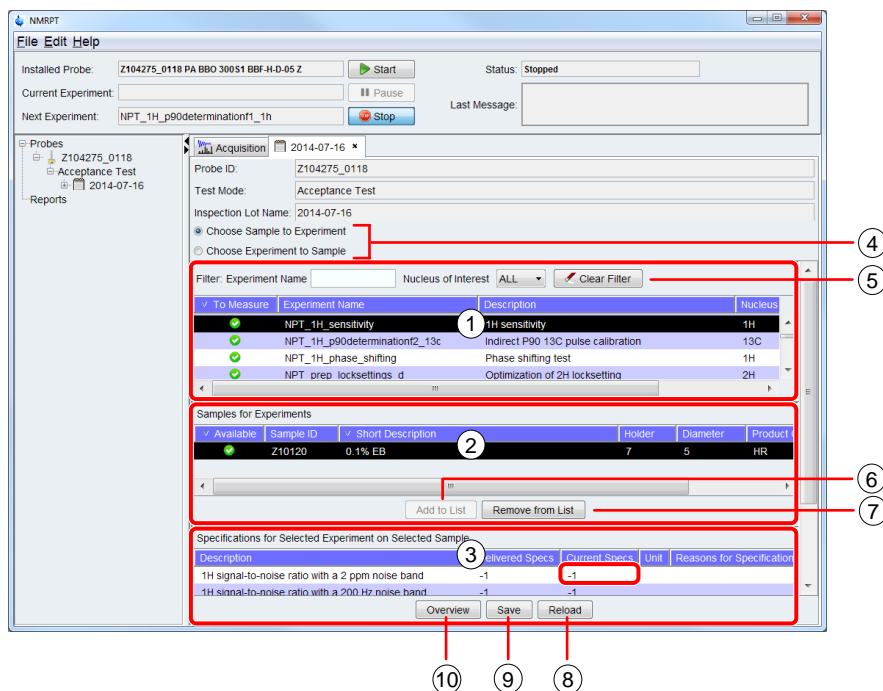
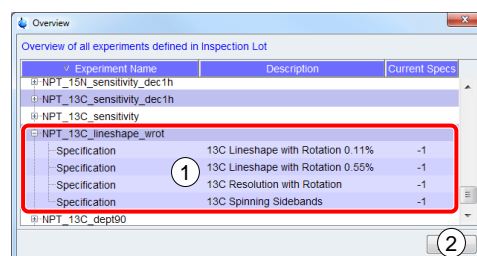

Figure 5-61: Inspection Lot tab – overview
Figure 5-62: Inspection Lot tab – Overview dialog
On Inspection Lot tab (Figure 5-61), the content of the Inspection Lot is prepared. **Pairings** of experiments and samples are included to the Inspection Lot and their specification values are set. The Inspection Lot tab consists of three tables:
- (1) Select an experiment from the experiment table (Figure 5-61 (1)) to show the respective samples in table (2) (Figure 5-61). The experiment table contains all experiments suitable for the probe of the Inspection Lot.
- (2) Select a sample for the selected experiment from the sample table (Figure 5-61 (2)) to show the respective specification values in table (3) (Figure 5-61). Click **Add to List** (Figure 5-61 (6)) to add the Pairing of experiment and sample to the Inspection Lot.
- (3) Click a cell in **Current Specs** column of the specification table (Figure 5-61 (3)) and enter a specification value. In case of changed Specs, enter **Reasons for Specification Change** to the corresponding cell. Click **Save** (Figure 5-61 (9)) to apply the changes.
- (4) Select **Choose Experiment to Sample** to swap the order of experiment table (Figure 5-61 (1)) and sample table (Figure 5-61 (2)). Selecting a sample in first table shows all experiments available for this sample in second table. **Select Choose Sample to Experiment** to switch back to default order.
- (5) **Filter Bar**
- (6) **Add to List**
Click **Add to List** (Figure 5-61 (6)) to add the selected Pairing of experiment and sample to the list of experiments to be executed, collated in this Inspection Lot.
- (7) **Remove from List**
Click **Remove from List** (Figure 5-61 (7)) to remove the selected Pairing of experiment and sample from the list of experiments to be executed, collated in this Inspection Lot.
- (8) **Reload**
Click **Reload** (Figure 5-61 (8)) to revert all changes not applied yet.
- (9) **Save**
Click **Save** (Figure 5-61 (9)) to apply all changes. Changed specifications are also applied to experiments of the Inspection Lot already acquired. The experiments are reprocessed and evaluated against the new specification value. Therefore the status of the results might change. Experiments removed from the Inspection Lot are also removed from the Results tab. The measurement data is not deleted.
- (10) **Overview**
Click **Overview** (Figure 5-61 (9)) to open Overview dialog (Figure 5-62).
In Overview dialog (Figure 5-62) the experiments currently selected for the Inspection Lot are listed. Expand an experiment item (1) to see its specification values. Click **Close** (Figure 5-62 (2)) to close the dialog.